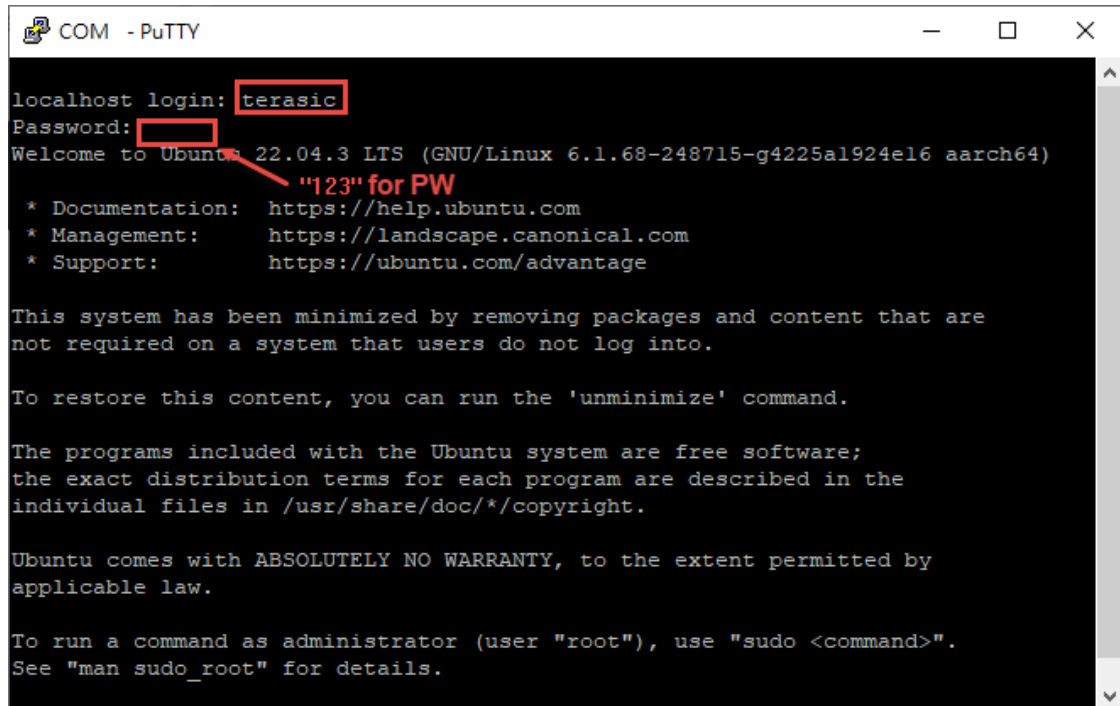

**Figure 1-11 Putty Window**
1. See **Figure 1-11**, the COM number of this Host is COM34. *Note that the “COM34” on the Serial Line column needs to be modified according to the actual com port on the user's computer.*